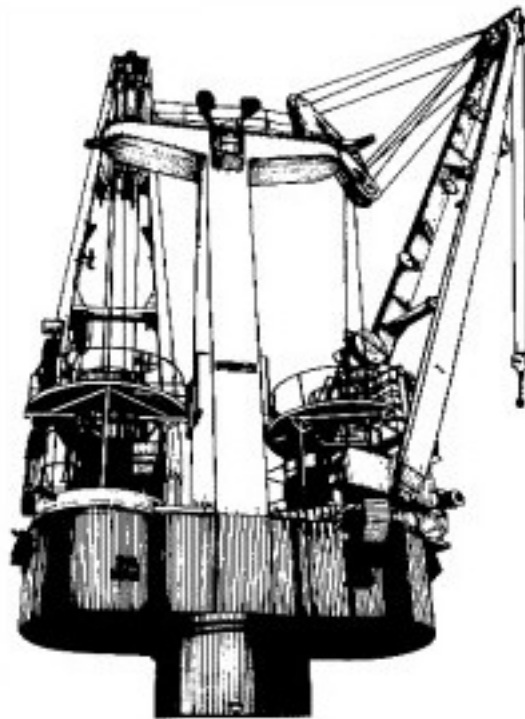

Figure 3-48
1. Set up the Hagglands crane in twin mode (see Figure 3-48).